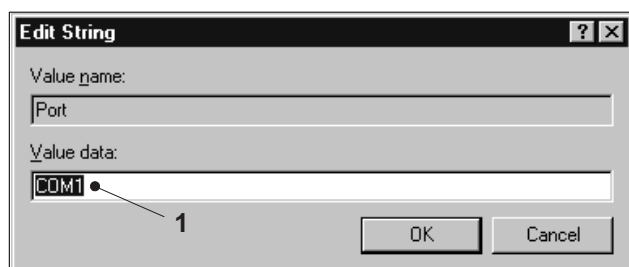

Fig. 8 Edit string
- 2 On the line **Value Data** change the entry to **COM1** or **COM2** (Fig. 8/1).